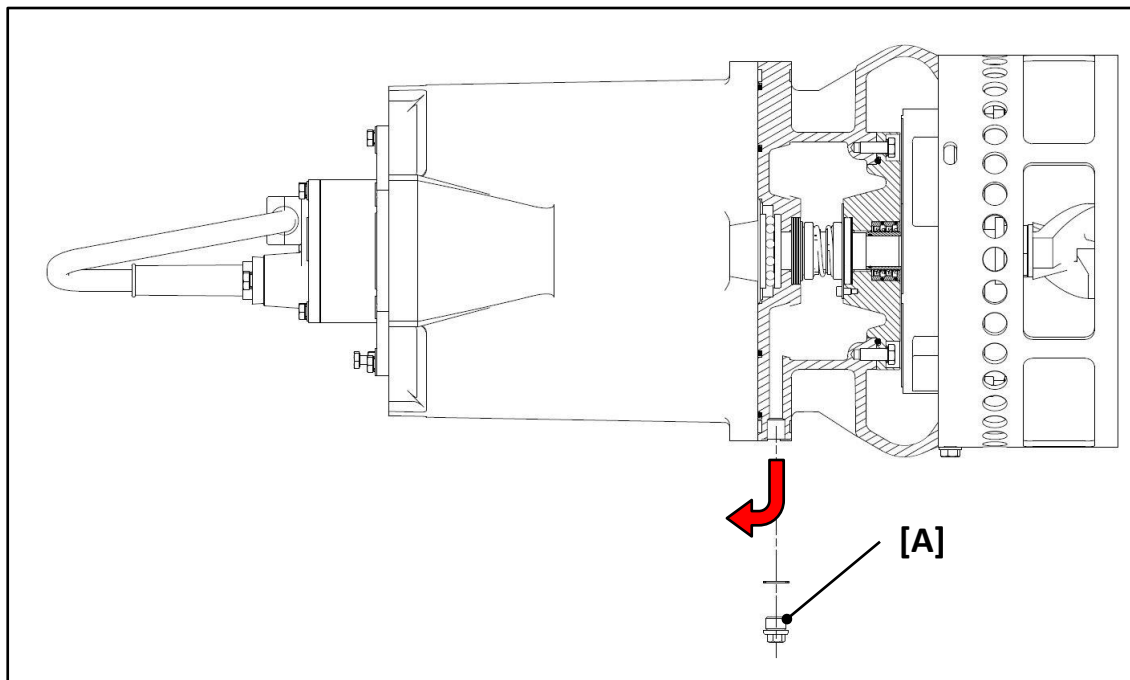

Fig. 20
- removing the "OIL" plug [A] and its copper washer, let the existing oil exiting completely from the oil chamber (see Fig. 20);